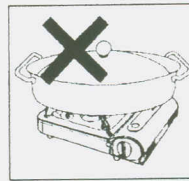

Fig.12
1. Do not use plates, pans, which extend over the edge of fuel cartridge cover. (Fig. 12)